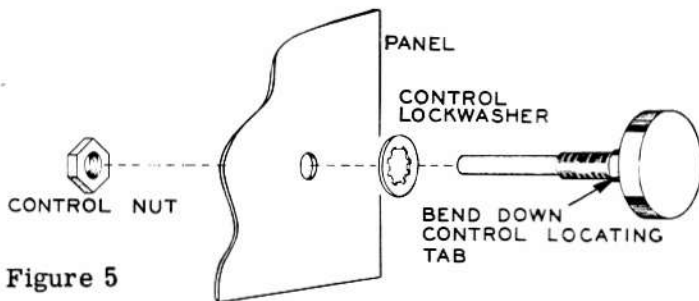

Figure 5
(X) Mount the 600 Ω oscillator control with a control lockwasher and a control nut. See Figure 5.